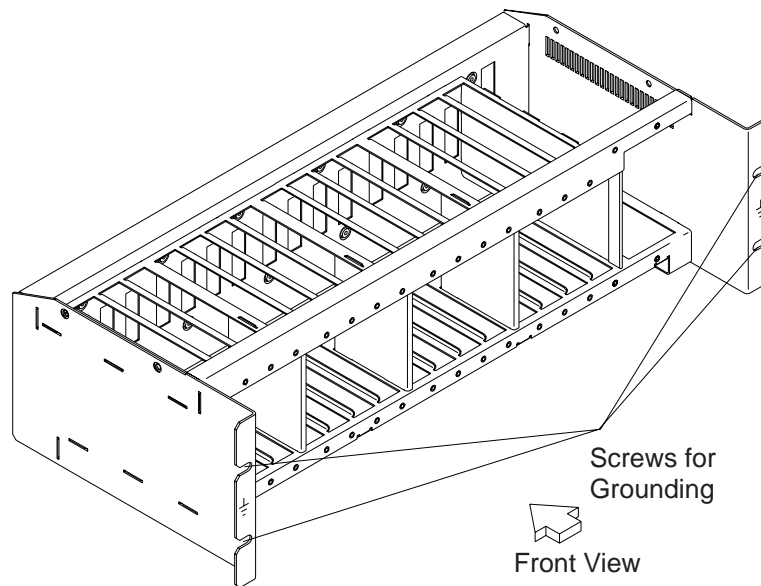

Figure 0-9. LCB Grounding via Screws
- Check that electrical continuity is assured between the LCB housing and the controller expansion frame, if LCBs are present. This operation must be performed before any network connection (see Figure 0-9 on page xxxii).